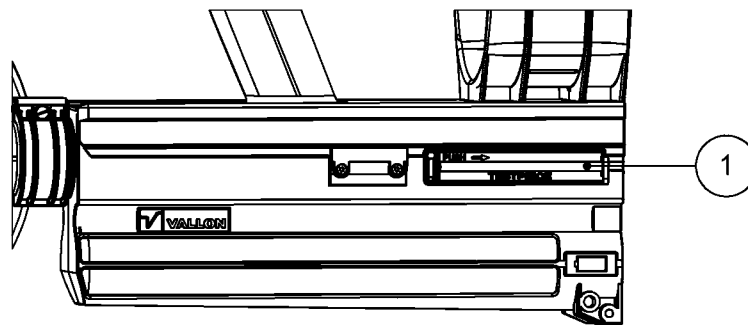

Fig. 6.2.1: Removing test piece: (1) Test piece
2. Move the arm rest to transport position. Remove the test piece from the holder at the side of the detector (see fig. 6.2.1).